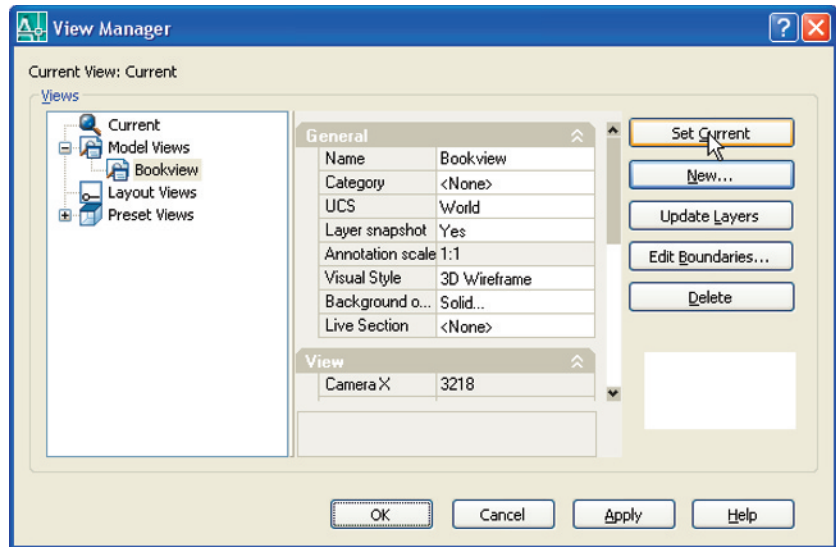

Fig. 16.12 The **View Manager** dialog
5. The **View Manager** dialog reappears, showing **Bookview** highlighted in the **Views** list. Click the dialog's **OK** button (Fig. 16.12).